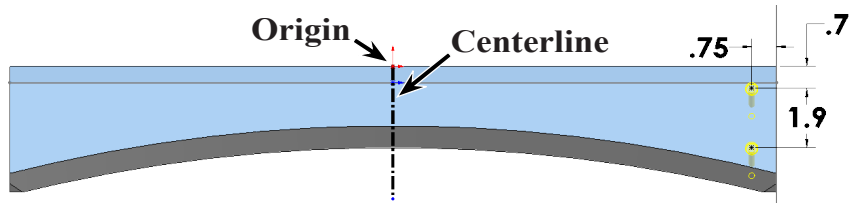

Fig. 30
Step 11. Sketch a vertical centerline down from Origin , Fig. 30.